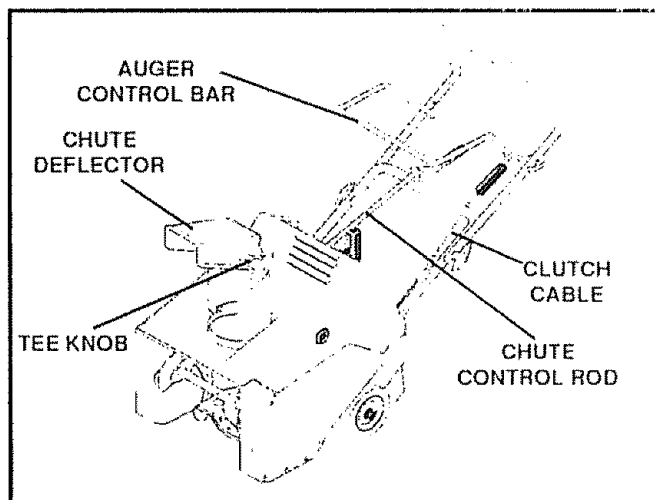

FIG. 1
Figure 1 shows the snow thrower completely assembled. Reference to the right and left hand side of the snow thrower is from the operator position at the handle.
- Loosen the tee knob on the chute deflector (Fig 1)
- Pull the chute deflector to one side (Fig 2B) to clear the upper handle and raise the upper handle to the operating position as shown in Fig 1 (NOTE: Hold the upper handle apart to prevent scratching the lower handle)
- Loosen tee knob on the chute deflector and move it to snow throwing position (Fig 1)